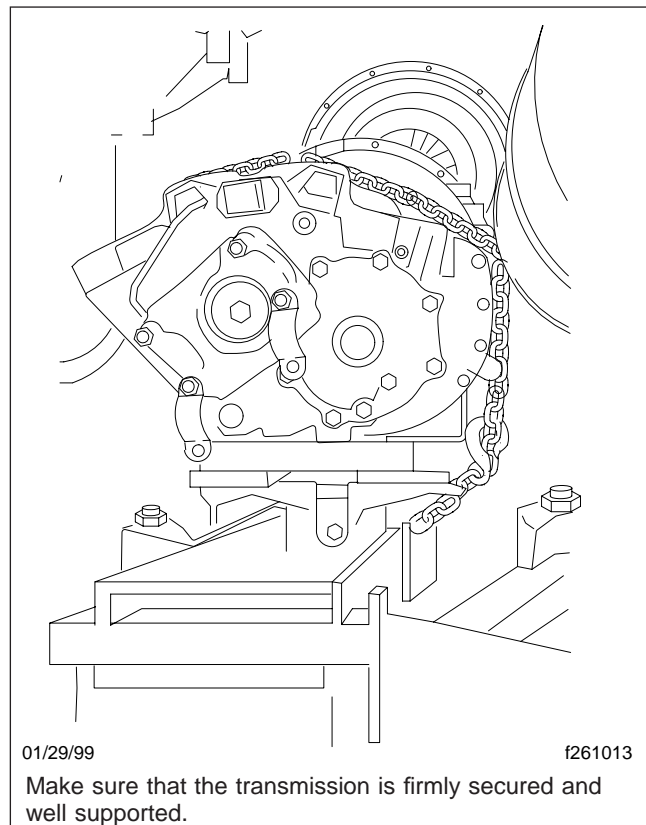

Fig. 13, Transmission Ready To Remove
15. After making sure that the transmission is firmly secured and well supported, remove the transmission from the vehicle. See **Fig. 13**.